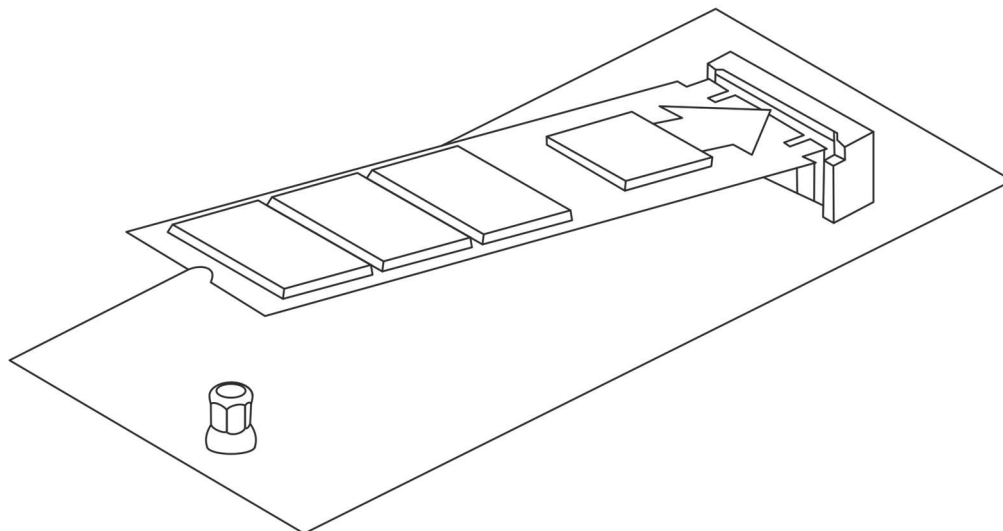
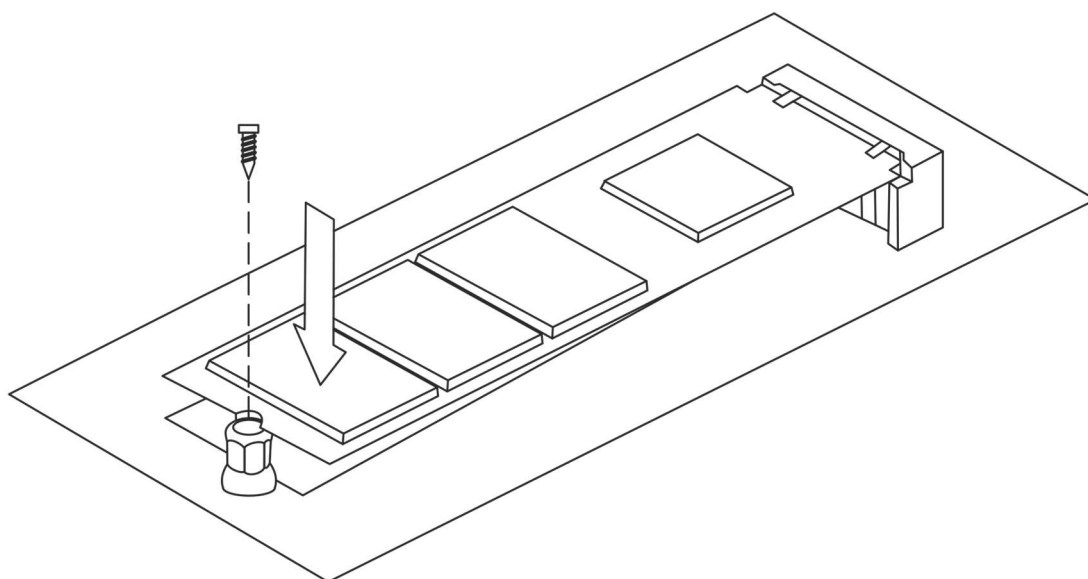

Figure 9 – Installing the storage
Figure 10 – Securing the storage
Step 4. Insert the storage contacts into the M.2 slot at a 30° angle until it stops, as shown in figure 9. Gently lower the storage to a horizontal position. The notch on the edge of the storage should align with the support element. While holding the storage, screw the mounting screw into the support element hole until tight, as shown in figure 10.